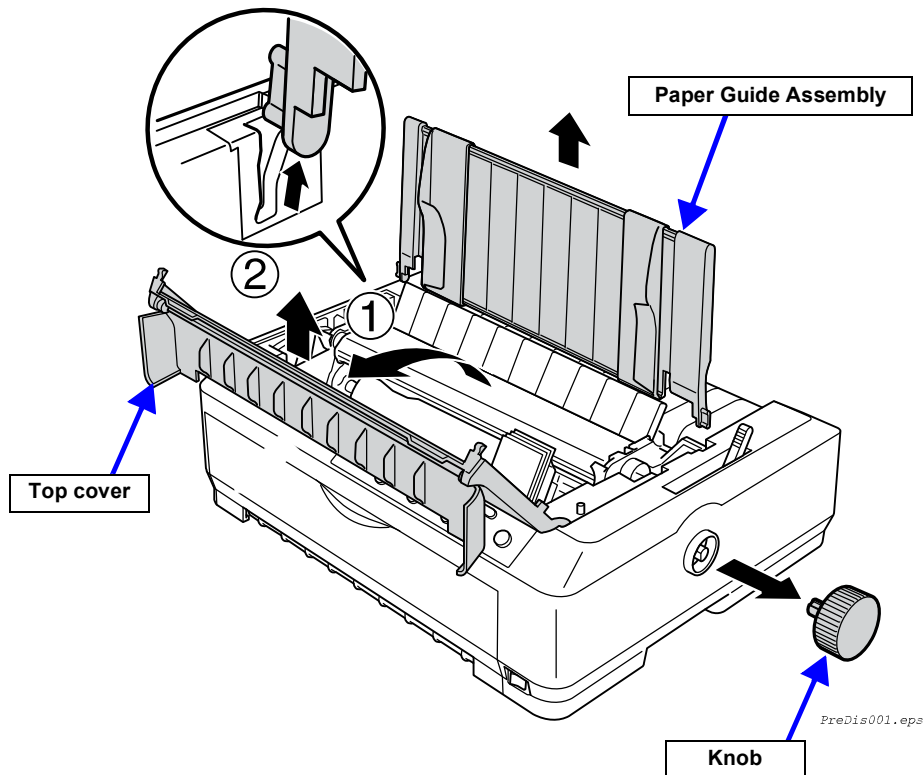

Figure 4-2. Pre-Disassembly
- Paper Guide Assembly. (See Figure 4-2)
- Top cover. (See Figure 4-2)
- Knob. (See Figure 4-2)
1. Remove the top cover. (See Figure 4-2)